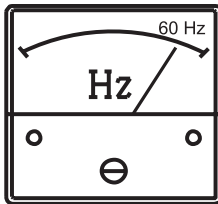

Figure 35. Frequency Meter
- The generator's frequency meter (Figure 35) should display the 60-cycle output frequency in **HERTZ**.